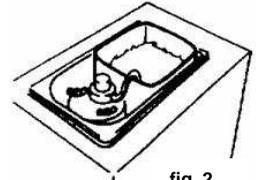

fig. 2
- Place filled cream container into SANOMAT and swing suction pipe into it. (fig. 2)